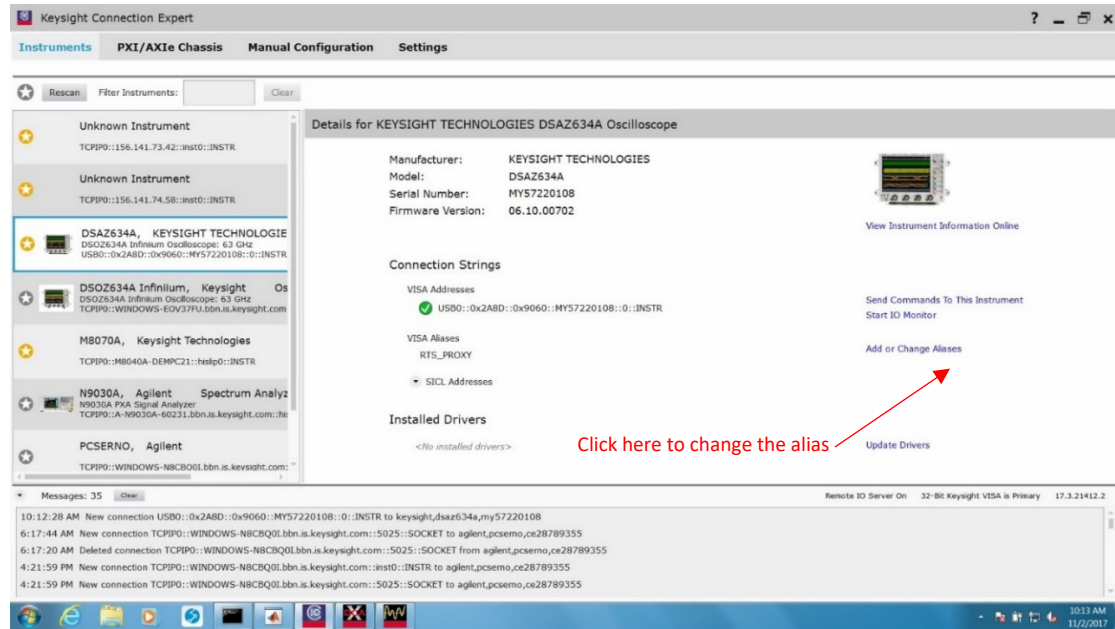

Figure 2. Keysight Connection Expert showing on the left the DSAZ. Change VISA Alias as described above.
- If connected, it should be displayed. (Refer to Figure 2.)
Now the instrument is ready to be integrated into the M8070B software. This is shown in figure 2.